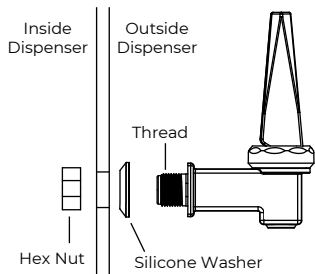

Figure A-1
Step 1 Detach faucet from dispenser by unscrewing hex nut from inside tank (Figures A-1 & A-2).
Step 3 Place silicone washer over threads on faucet body MAKING SURE THE SILICONE WASHER IS FLUSH WITH THE BACK OF FAUCET BODY (Figures A-1 & A-2). Install the faucet body onto body of dispenser